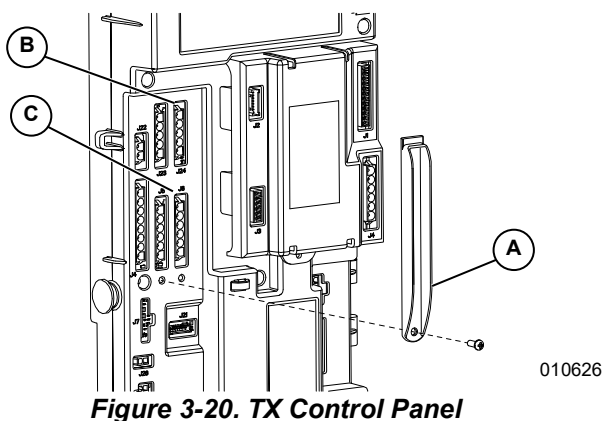

Figure 3-20. TX Control Panel
- See Figure 3-20. To configure the controller, remove the interlock plate (A) to expose the J24 (B) and J6 (C) connectors.